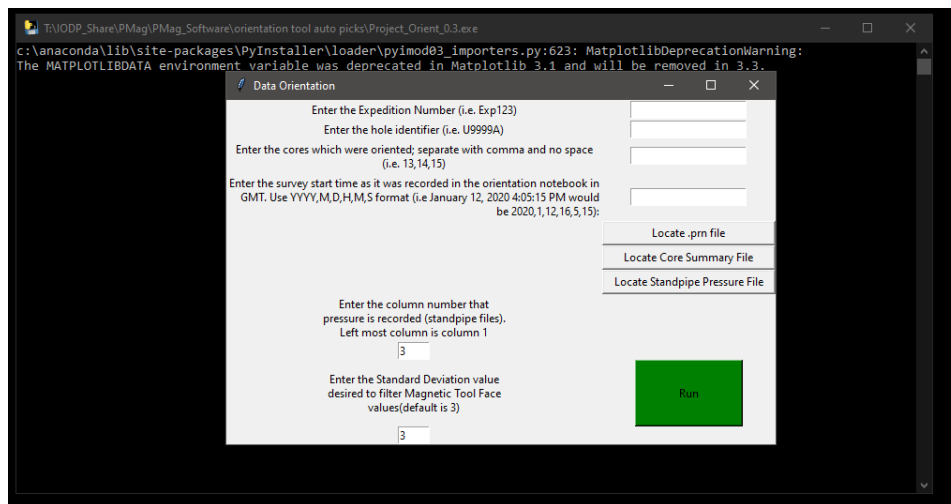

Figure. 1 GUI Interface
- When the program opens, it should pull up an interface such as shown in Figure 1. It will also open a black command prompt screen. This has been enabled for debugging and error tracking purposes and can be disabled in later versions. For now, just minimize the command prompt screen. The program may take a minute or two to load so be patient. The black command prompt will open first.